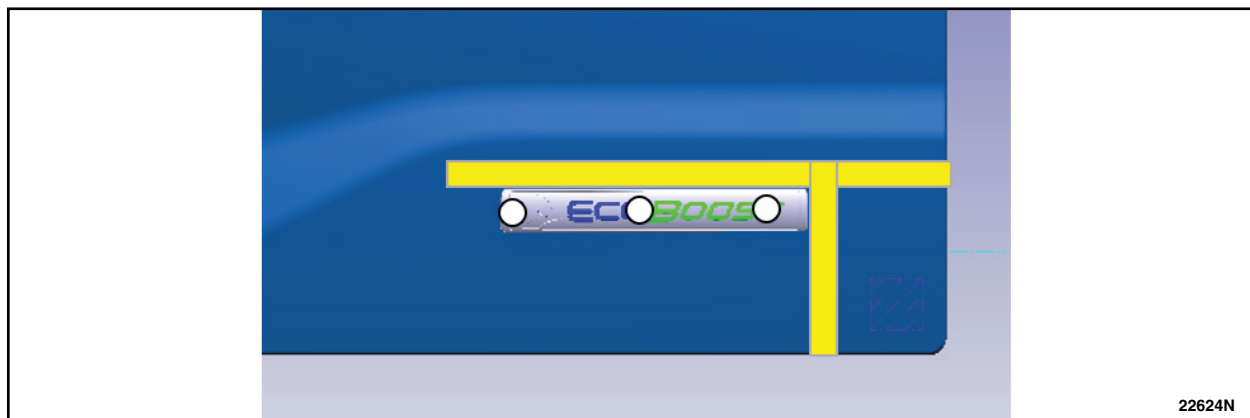

FIGURE 7
28. Remove the tape liner from the back of the badge and install to the door using the locating tape to properly align the badge. See Figure 7.
29. Using medium hand pressure, press for 3 seconds at a minimum of 3 separate locations along the length of the badge until the tape is fully adhered. See Figure 7.